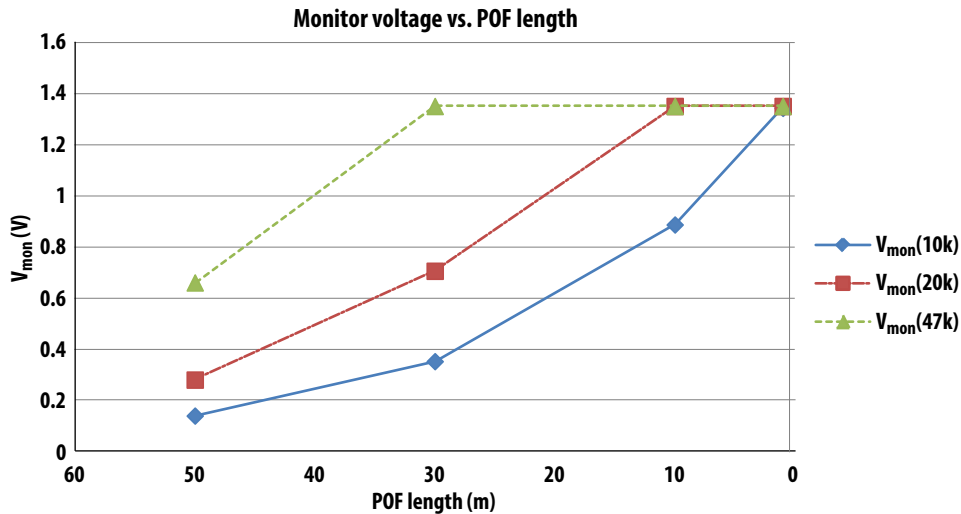

Figure 4. Typical V_{mon} vs. POF length
3. Choose a suitable resistor value such that the output monitor voltage is not saturated. Refer to Figure 4.
Figure 4 depicts the relationship between monitor voltage and POF length with 10 k Ω , 20 k Ω and 47 k Ω .